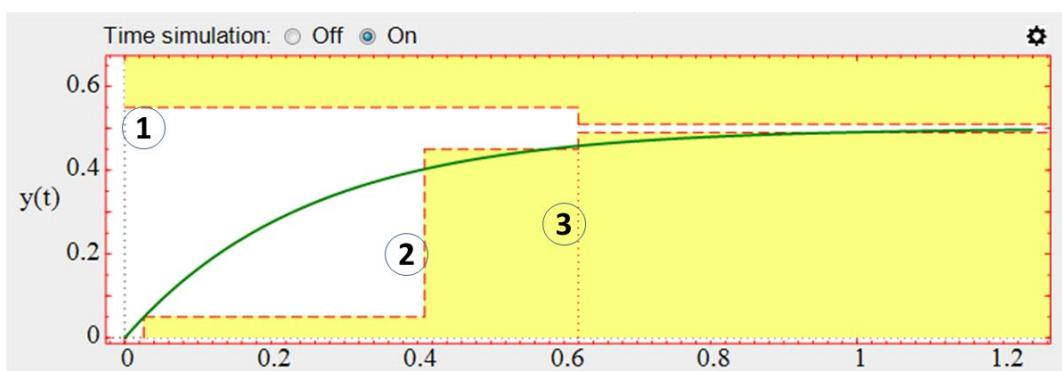

Figure 33. Interactive elements to set the specifications P_o , t_r , and t_s
1. Click on the button *Time specifications*. When the user does this action, an auxiliary window (see Figure 33) is show on the screen.
The specifications *maximum percentage overshoot* P_o , *maximum rise time* t_r , and *maximum settling time* t_s define forbidden (yellow) areas where $y(t)$ does not have to pass. These three specifications can be set by text fields or by dragging the corresponding interactive element (see Figure 33):